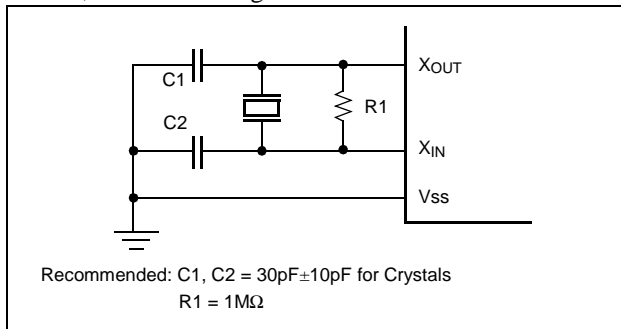

Figure 10-2 Oscillator Connections
X_{IN} and X_{OUT} are the input and output, respectively, a inverting amplifier which can be set for use as an on-chip oscillator, as shown in Figure 10-2.
- Note:** When using a system clock oscillator, carry out wiring in the broken line area in Figure 10-2 to prevent any effects from wiring capacities.